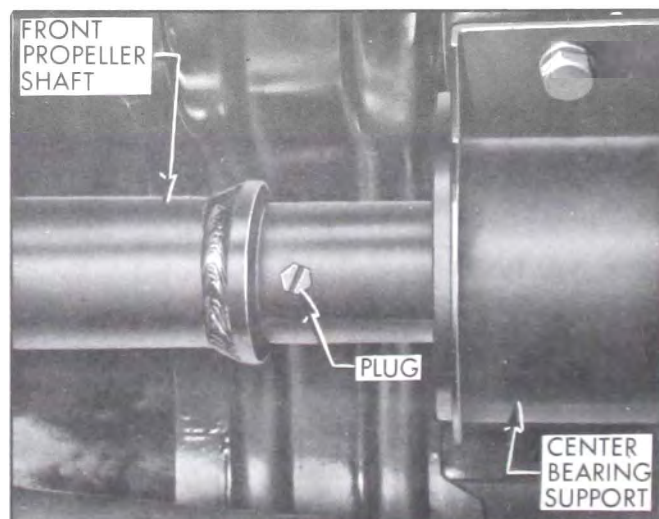

Figure 1-20—Propeller Shaft Spline Grease Plug
2. Propeller Shaft Slip Spline. Remove plug on propeller shaft. Propeller shaft may have to be rotated so that plug is accessible. See Figure 1-20. Install 1/4-28 thread grease fitting or adapter as these may be needed to build up sufficient pressure to force the grease through the splines to the lubricant cavity due to the spline location when car is raised on some types of hoists. **USE ONLY** multi-purpose grease EP#1 grade available through many oil companies. All major lubrication equipment manufacturers have suitable adapters available.